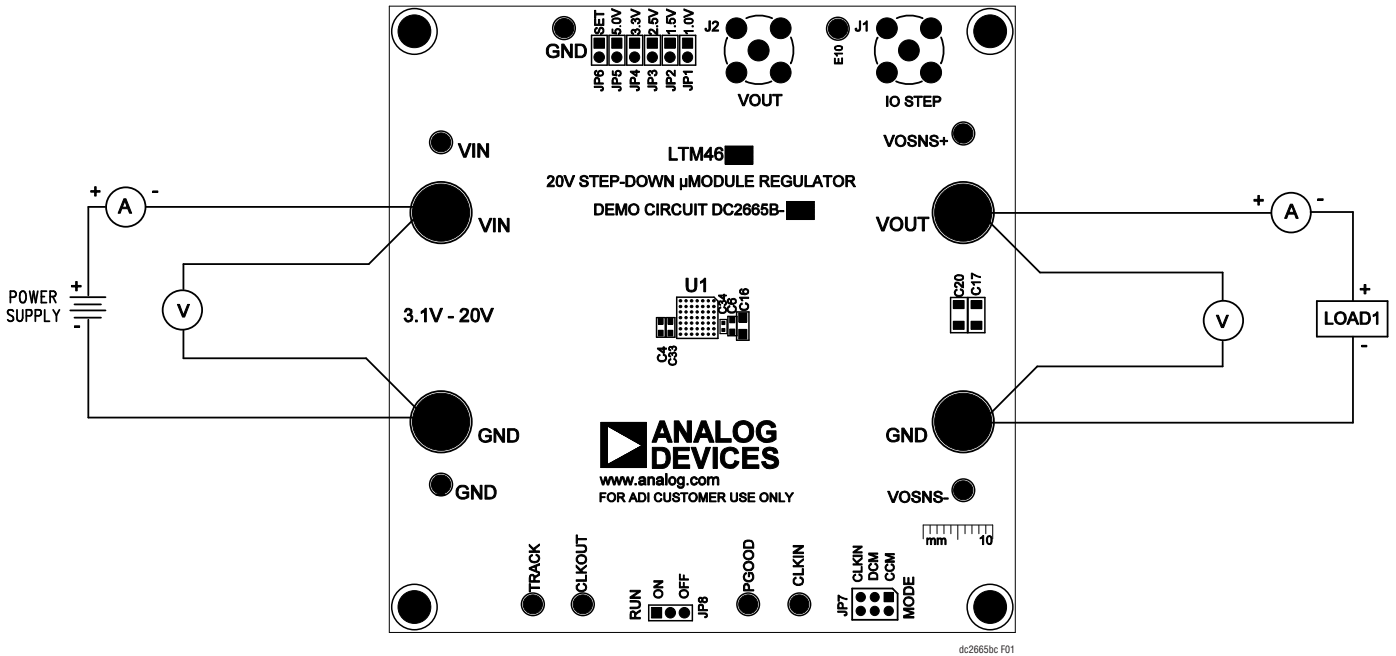

Figure 1. Test Setup of DC2665B-C
Demonstration circuit 2665B-C is an easy way to evaluate the performance of the LTM4657. Refer to Figure 1 for test setup connections and use the following the procedure.
3. With the power off, connect the load, input voltage supply, and meters as shown in Figure 1.